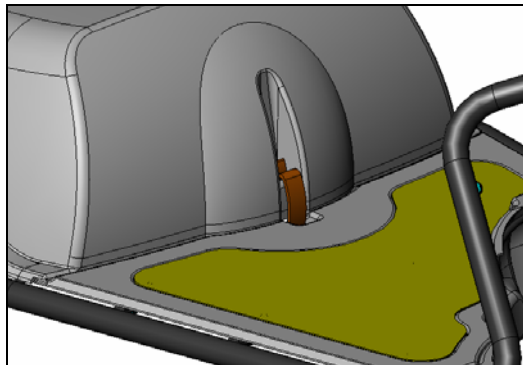

Figure 10
*Serial Number Label is affixed to the Tiller: See Fig 10.*
- c. Push the **Plastic Clip** to secure the **Batteries Cover** in its location (See **Figure 10**).